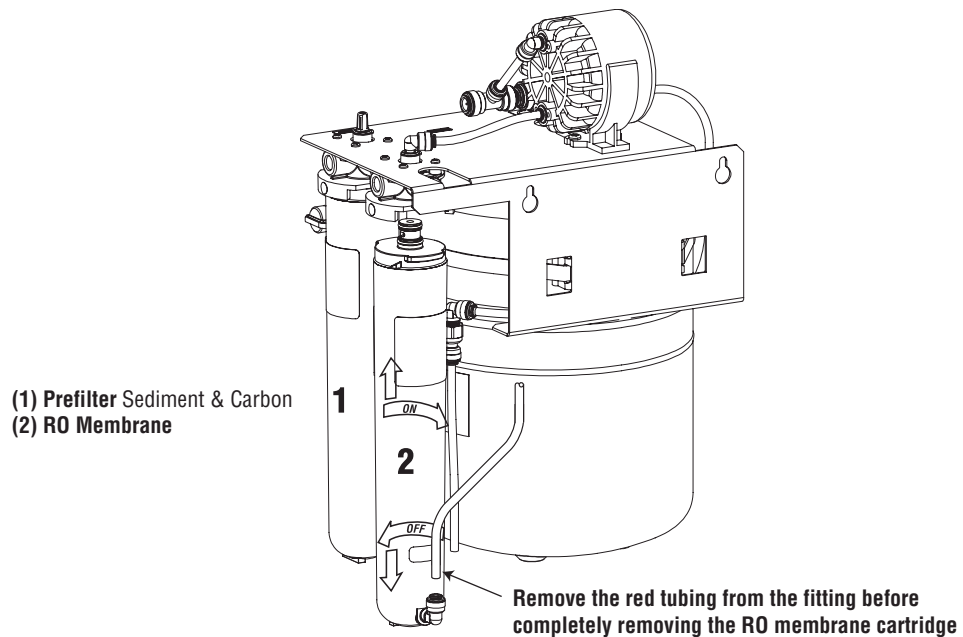

Figure 3
- 7) Connect the 1/4" red tube from the “Brine In” side of the permeate pump to bottom port of the RO Module. (See Figure 3).
4. Remove the red tubing from the fitting (refer to Figure 3).